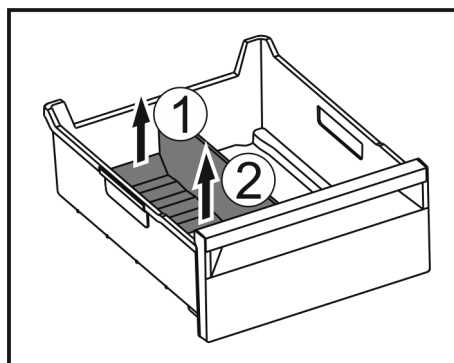

Fig. 171
- Lift the rear part of the ice compartment divider. Fig. 171 (1)
- Remove the ice compartment divider upwards. Fig. 171 (2)